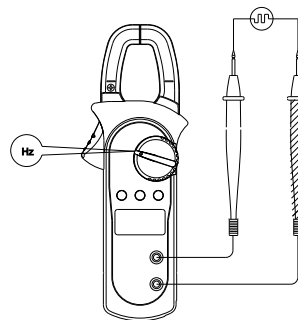

Figure 9
7. Frequency measurement (Hz) (shown in Figure 9)